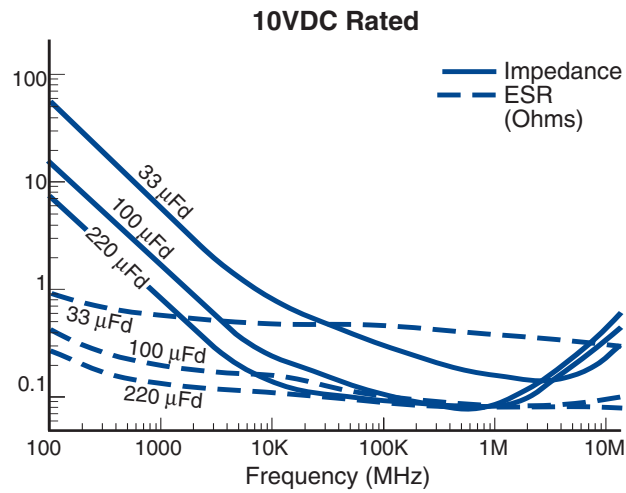

Figure 7a. ESR and Impedance vs. Frequency
**Equivalent Series Resistance —** The equivalent series resistance (ESR) of a solid tantalum capacitor is frequency dependent as shown in Figure 7a thru 7g. The curves are typical of the capacitor values noted, with measurements being made by contacting lead wires 1/4 inch from the ends of the capacitor cases. Since ESR decreases with frequency, AC performance at higher frequencies is considerably better than would be predicted from the 120 Hz ratings.